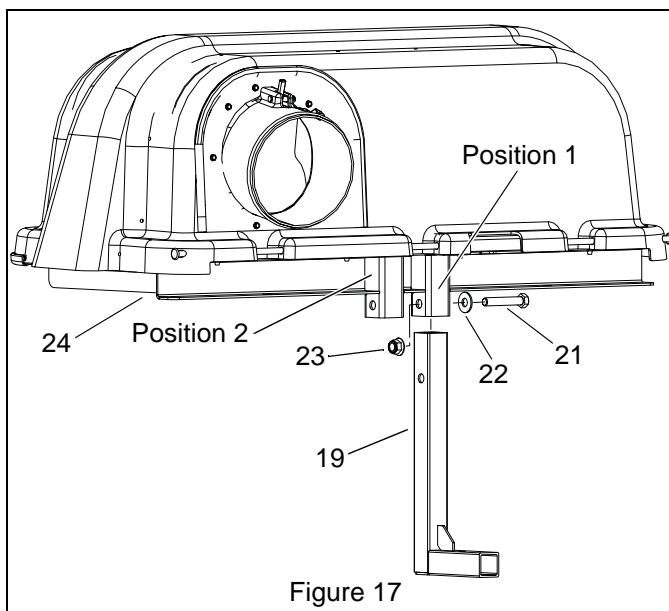

Figure 17
1. Insert mount post (item 19) into hood assembly (item 24) pocket position 1 and secure with one 1/2 x 2 3/4" hex bolt (item 21), one 1/2 x 1 1/4" flat washer (item 22) and one 1/2" locking nylon flange nut (item 23). See Figure 17.